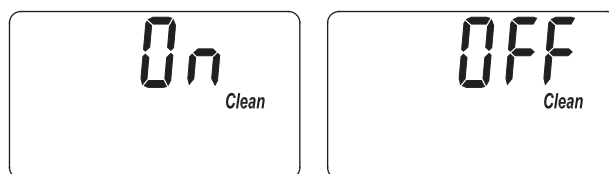

FIG. 26
1. Press and hold the PROGRAM button until the screen in Figure 24 is displayed. Once in this display, press the PROGRAM button twice and one of the two displays in Figure 26 is shown.